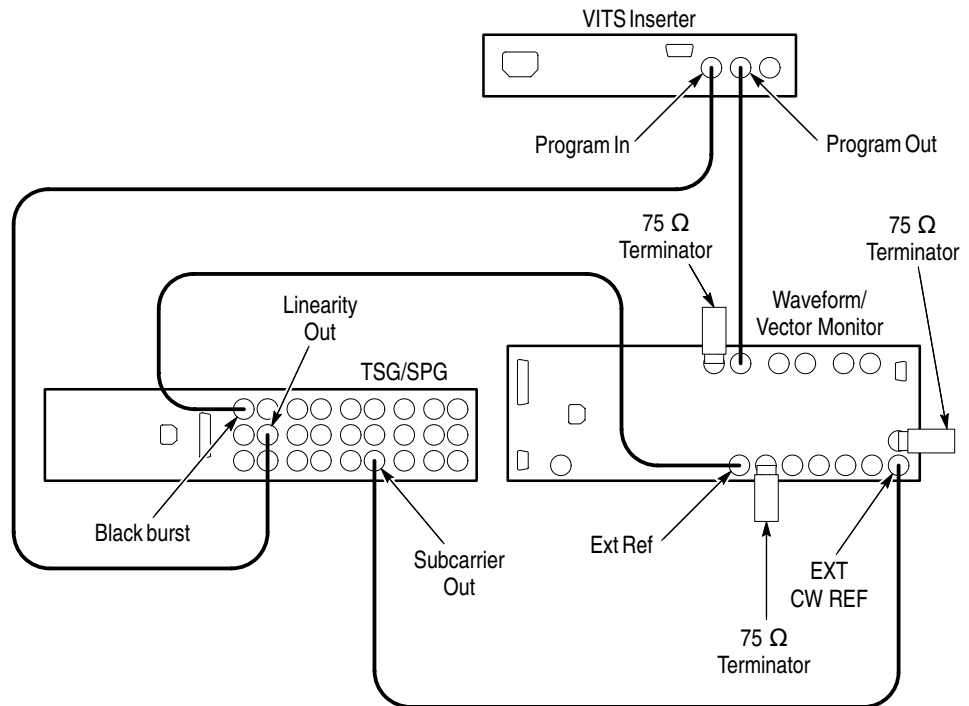

Figure 5-4: Equipment connections for phase matching
1. Connect a 75 Ω coaxial cable from the Test Signal Generator/Sync Pulse Generator (TSG/SPG) subcarrier output to the waveform/vector monitor Ext CW Ref. Terminate the remaining side of the loop-through input with a 75 Ω end-line terminator. See Figure 5-4.
2. Connect a 75 Ω coaxial cable from the TSG/SPG black burst output to the waveform/vector monitor External Ref. Terminate the remaining side of the loop-through input with a 75 Ω end-line terminator. See Figure 5-4.
3. Connect a 75 Ω coaxial cable from the TSG/SPG linearity output to the VITS inserter PROGRAM IN. See Figure 5-4.
5. Connect a 75 Ω coaxial cable from the VITS inserter PROGRAM OUT to the waveform/vector monitor CH A input. See Figure 5-4. Terminate the remaining side of the loop-through input with a 75 Ω end-line terminator.